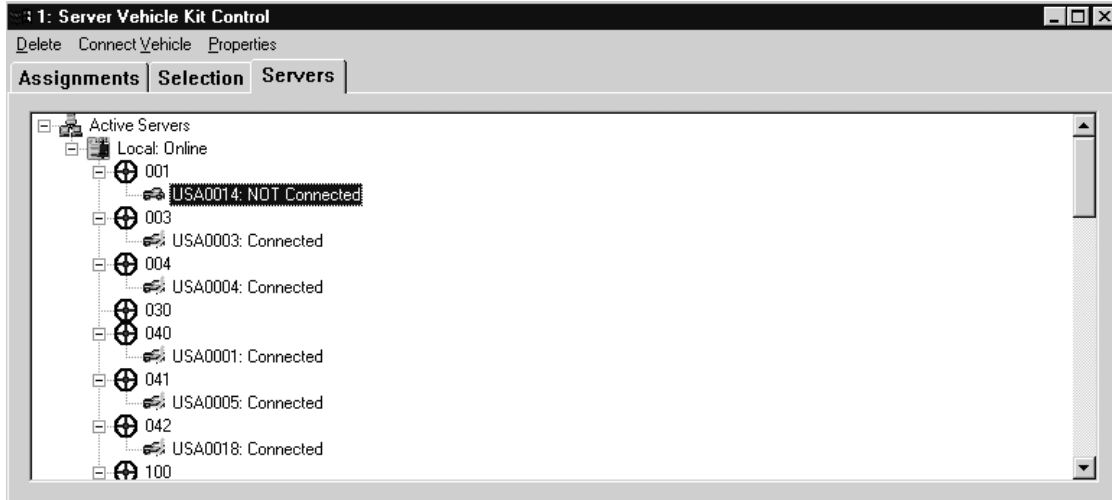

Figure 9-9 Server Vehicle Kit Control Window → Server Tab
- (1) Check to see if the vehicle you want to see has been truly been **Not Connected** using the **Server Vehicle Kit Control Window**.
- (2) Once the **Server Vehicle Kit Control Window** is open, select the **Servers** tab (see Figure 9-9).